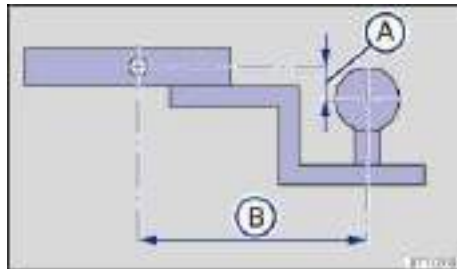

Fig. 103 Dimensions of the ball mount support.
The receiver used requires both a ball mount and a ball that meet special requirements regarding geometry and size. This applies to both the height of the ball above the surface where it attaches ⇒ fig. 103 (A), and the pin-to-ball distance (B).